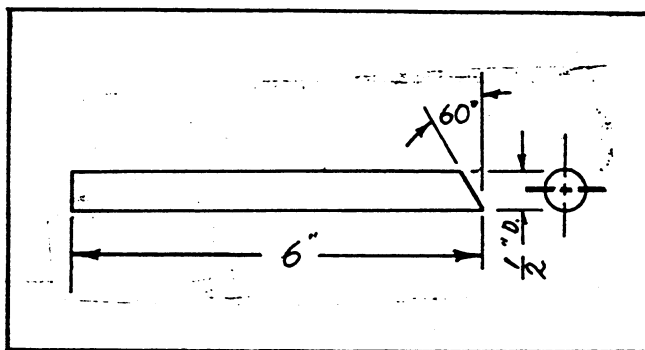

FIG. 19 - VALVE SEAT REMOVAL TOOL
1. Use a knockout tool made as shown in Fig. 19.